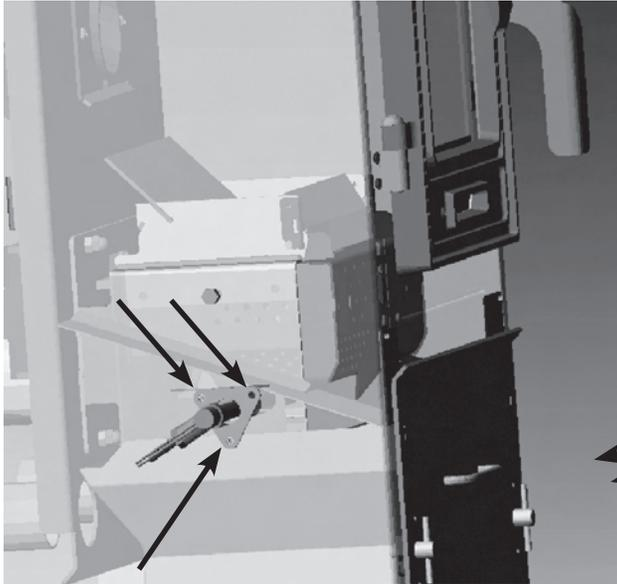
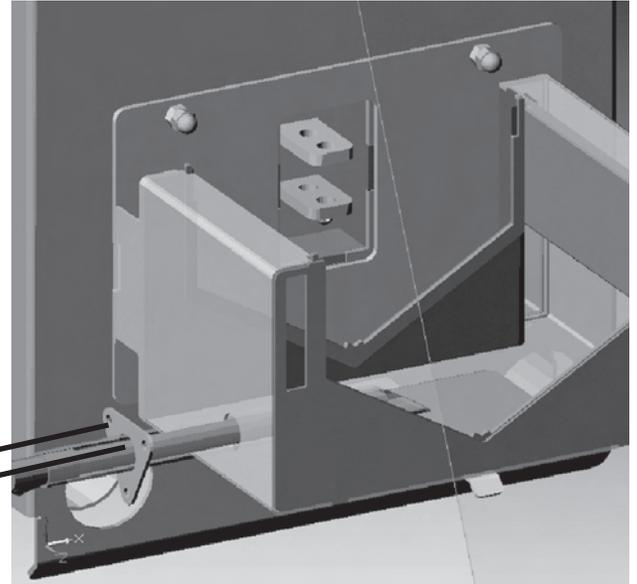

Figure 22
Figure 23
2. Remove Igniter Access Panel, shown in Figure 2 on page 5. Then remove three screws from flange as shown in Figure 22. When removing the screws take care not to drop the screws between the panels of the unit. Remove wire connectors and carefully remove Igniter and Tube Assembly as shown in Figure 23.